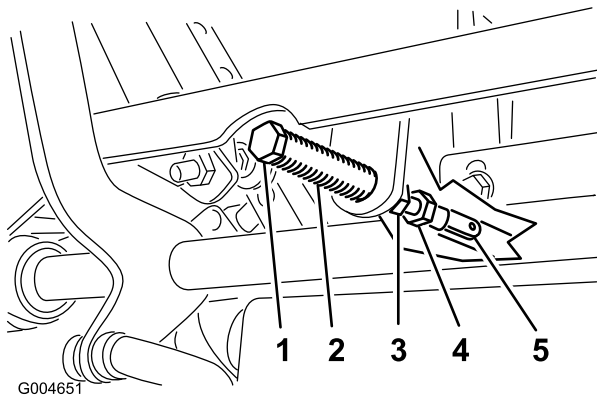

Figure 54
5. Pull the lever back until the clevis pin (on an arm above the pivot shaft) contacts the end of the slot (just beginning to put pressure on the spring) as shown in Figure 54.
7. If adjustment is needed, loosen the nut and jam nut against the yoke (Figure 54).
8. Applying slight rearward pressure on the motion-control lever, turn the head of the adjustment bolt in the appropriate direction until the control lever is centered in the NEUTRAL-LOCK position (Figure 54).
9. Tighten the nut and jam nut (Figure 54).
10. Tighten the jam nuts at the ball joints (Figure 54).